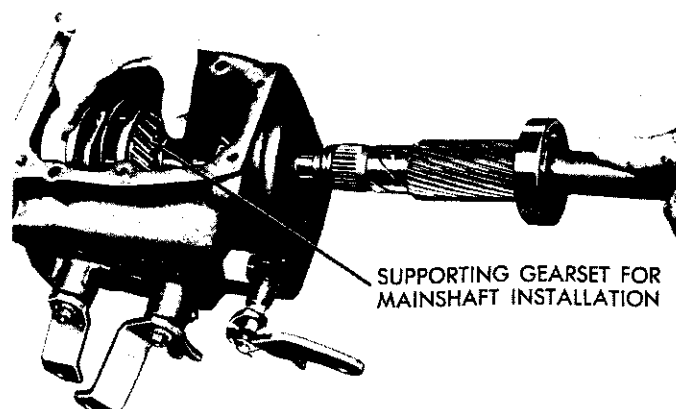

Fig. 29—Installing Mainshaft into Gears and Case
(5) Carefully work mainshaft through gears and synchronizer parts until bearing bottoms in rear of case (Fig. 29).